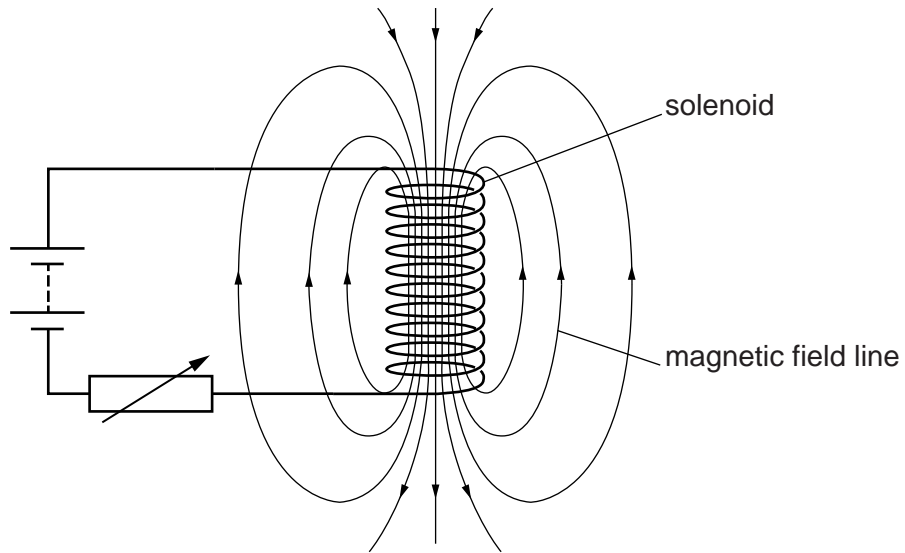

Fig. 9.1
- 6 A circuit contains a battery, a variable resistor and a solenoid. Fig. 9.1 shows the magnetic field pattern produced by the current in the solenoid.